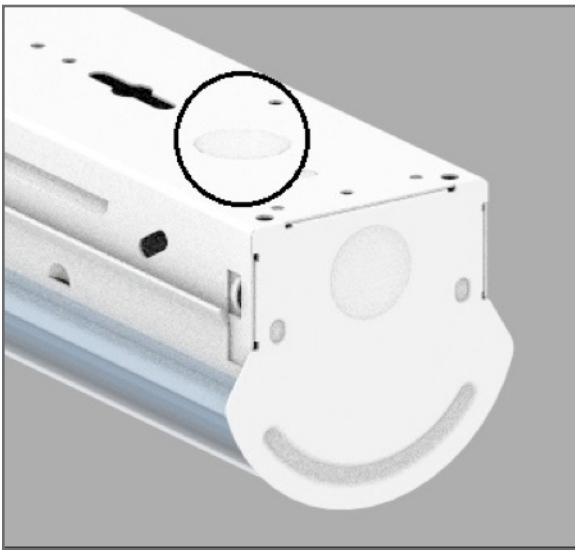

FIGURE 9
3. Remove the 7/8" knockouts (shown circled in Figure 9) on each end of the housing.